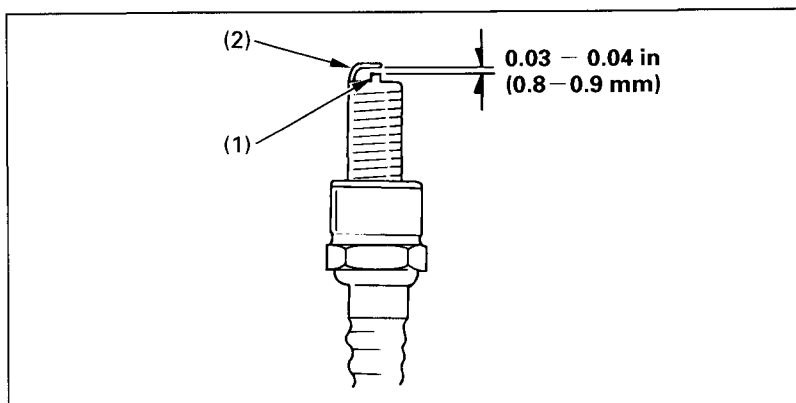

Fig. 4-18 (1) Center electrode (2) Side electrode
4. Visually inspect the spark plug electrodes for wear. The center electrode (Fig. 4-18) should have a flat tip and sharp edges, and the side electrode (2) should not be eroded. If the electrodes and insulator tip appear unusually fouled or burned, we suggest that you contact your authorized Honda dealer.